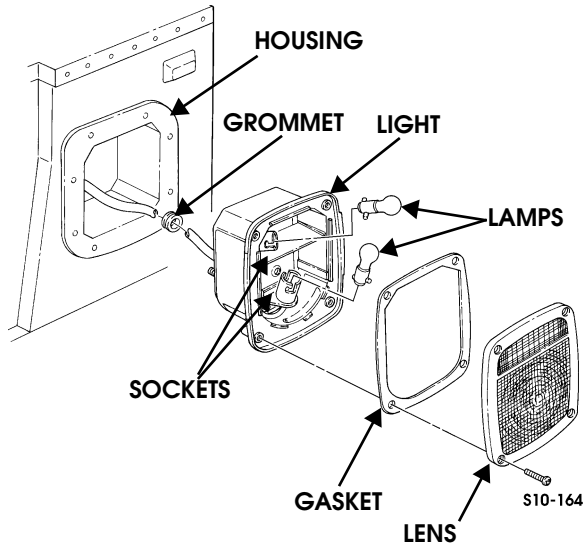

Figure 10-160: Rear Turn Signal Light Assembly
1. Remove four screws, lens, and gasket from turn signal light (Figure 10-160).
3. From behind the light, remove three nuts, lockwashers, four leads, and three washers securing light to light housing (Figures 10-160 and 10-161).
7. Remove light and grommet from housing (Figure 10-160).
1. Install light and grommet in housing (Figure 10-160).
5. Secure light to light housing with three washers, four leads, three lockwashers, and nuts (Figures 10-160 and 10-161).
6. Install two lamps in sockets (Figure 10-160).